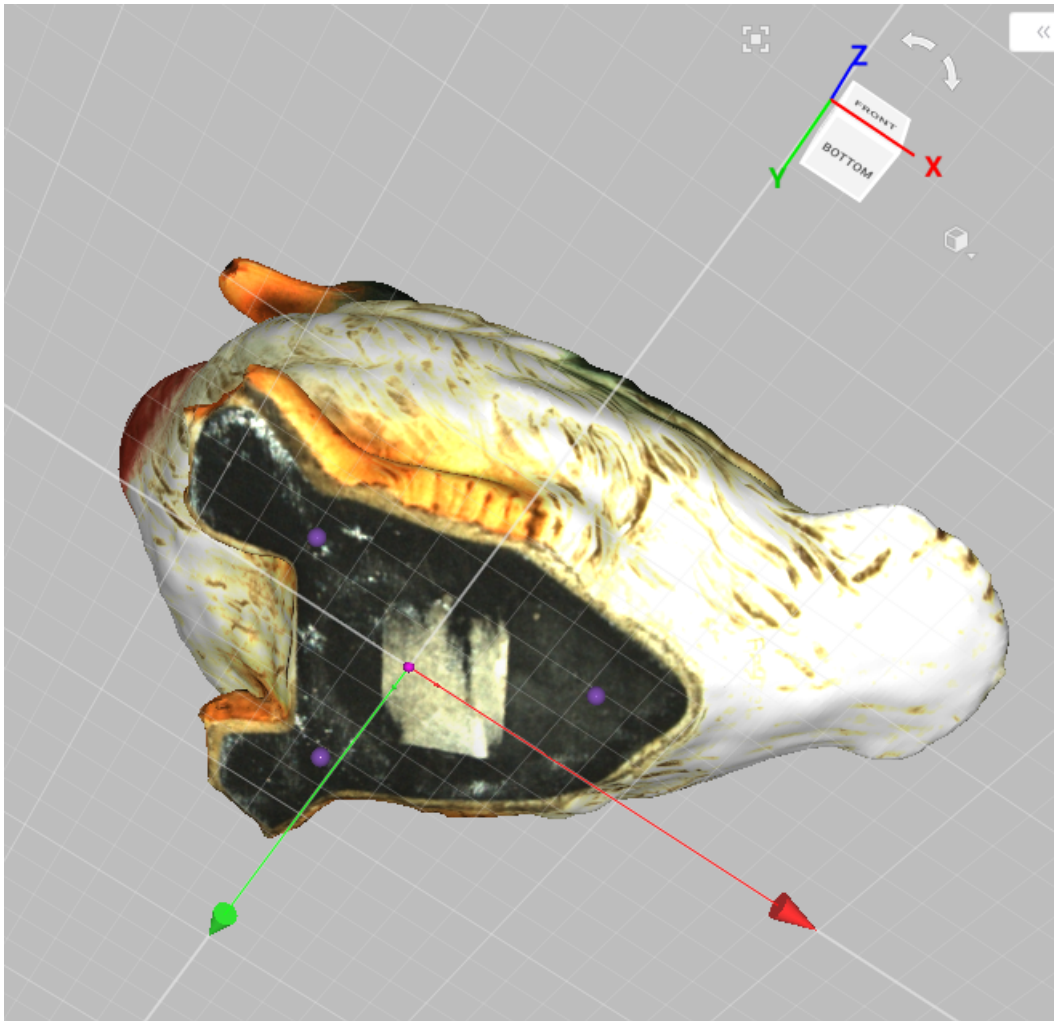

Figure 171: Positioning the model in the global coordinate system.
5. Use **LMB** to specify at least three points on the surface; the plane will automatically pass through their center of mass (see Figure 171). The following conditions will then apply: